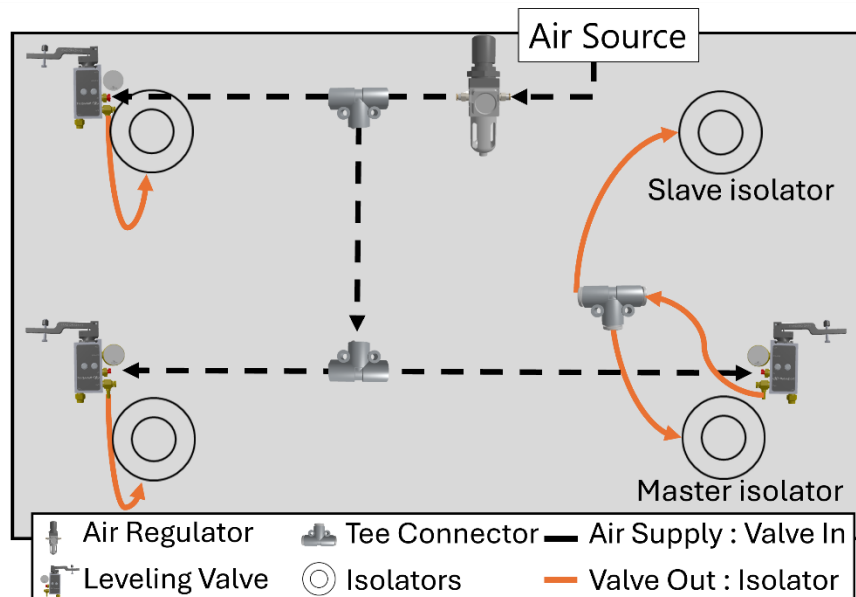
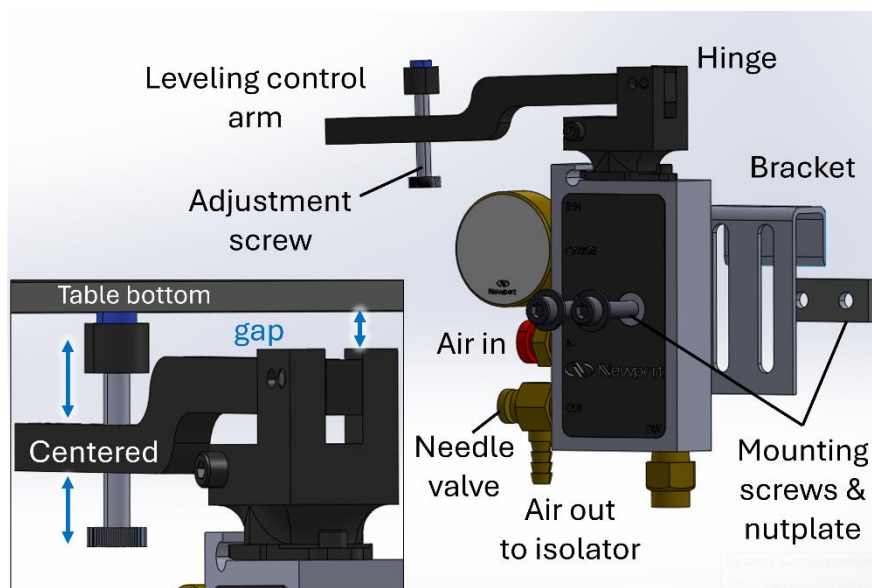
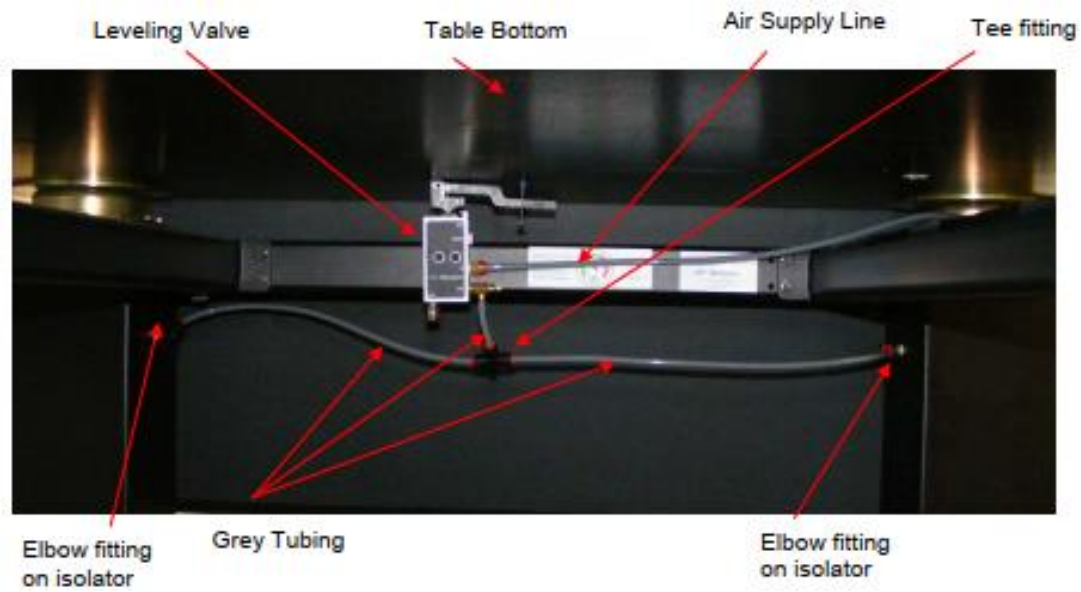

Figure 11 Pneumatic plumbing diagram for isolated table frame support version..
Figure 12 Leveling valve components..
Figure 13: Tubing connection for master-slave isolator.
Connect air lines to the isolators as shown in Figure 11, Figure 12 and Figure 13. When cutting tubing, be sure the ends are round and cut squarely. This is best done with a single edge razor blade (scissors will deform the tubing, causing leaks). The connections are detailed in Figures 11, 12 and 13.
1. Close the metering needle valve (figure 12) on each isolator then open it  $\frac{1}{4}$  turn.
2. Adjust the control arm adjustment screw of each valve (Figure 12) as required to obtain floating height. When all isolators are adjusted, re-check the level of the payload. NOTE: this step should require only minor adjustments. Do not move the small set screw near the pivot of the valve control arm.